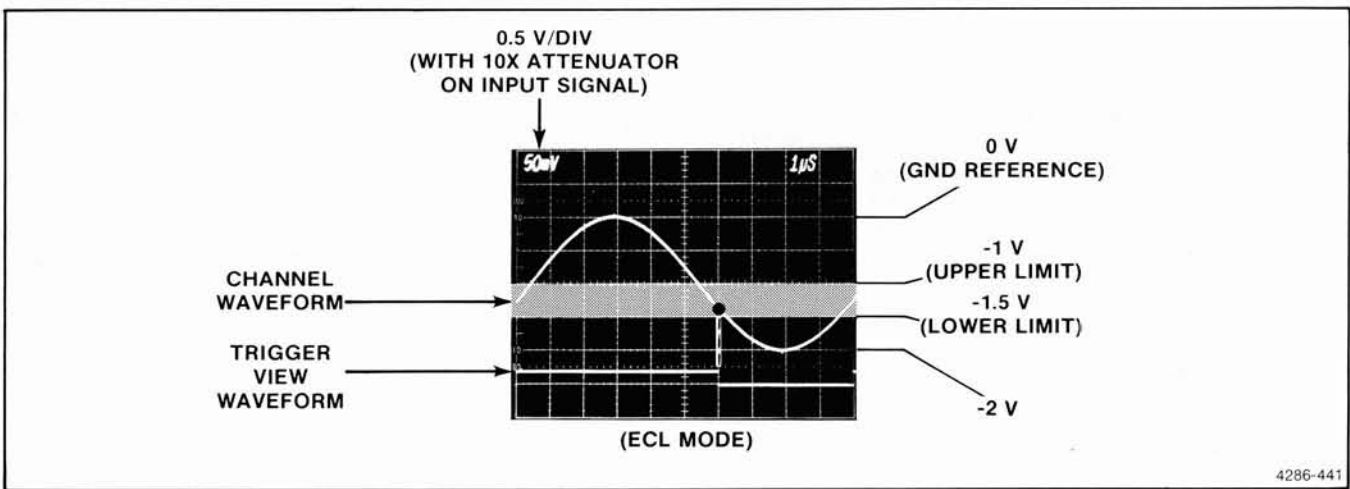

Figure 4-10. Threshold voltage range of the external clock input, in the ECL mode.
- o. Set the function generator Amplitude and Offset controls to display a sine-wave signal from 0 volt (GND Reference) to -2 volts on the crt. Refer to Figure 4-10.
- r. **CHECK**—that the waveform display remains triggered, and that the transition on the trigger view waveform occurs when the channel waveform voltage is within the limits of the -1 V to -1.5 V window. Refer to Figure 4-10.